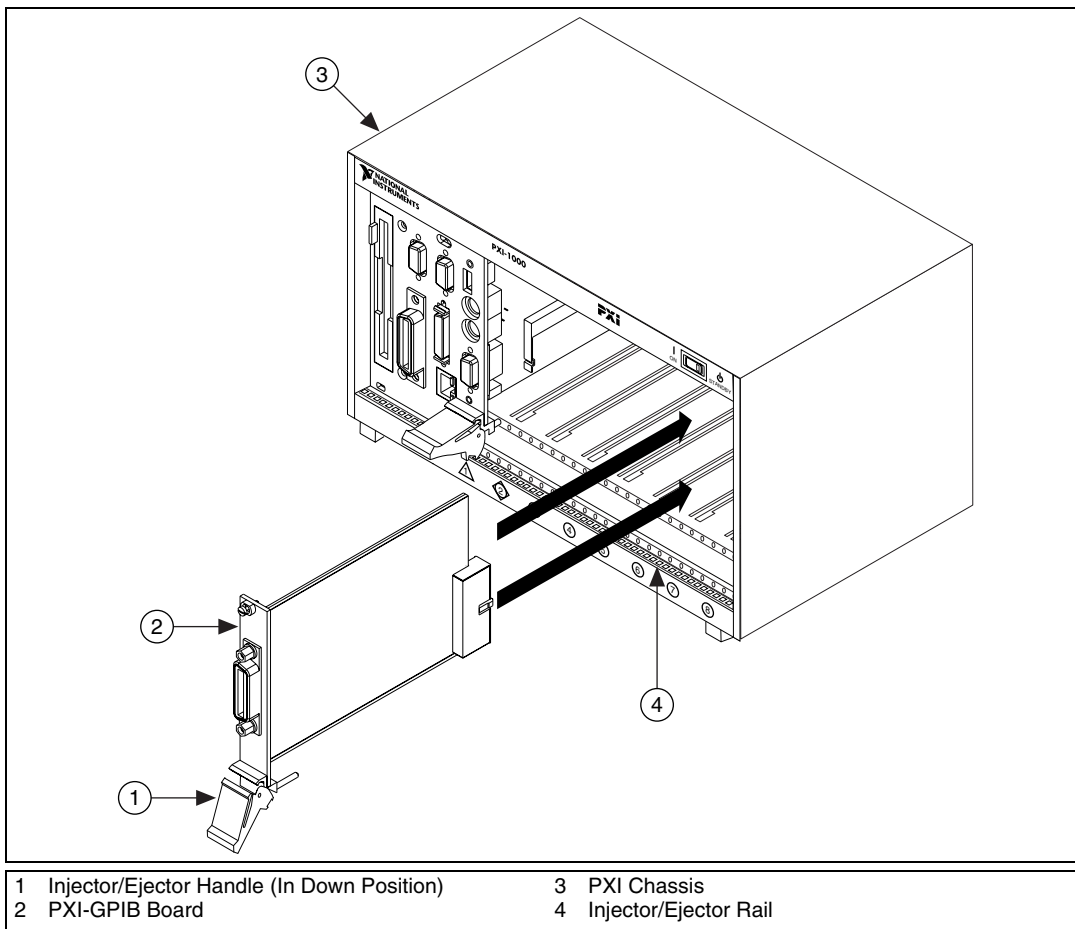

Figure 19. Installing the PXI-GPIB
5. Insert the PXI-GPIB into the selected 5 V slot. Use the injector/ejector handle to fully inject the device into place. Figure 19 shows how to install the PXI-GPIB into a PXI or CompactPCI chassis.